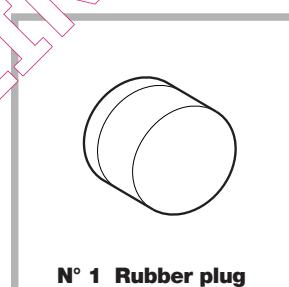

Fig. 5
- Push the machine into the opening, aligning it with the cabinets (fig. 5).